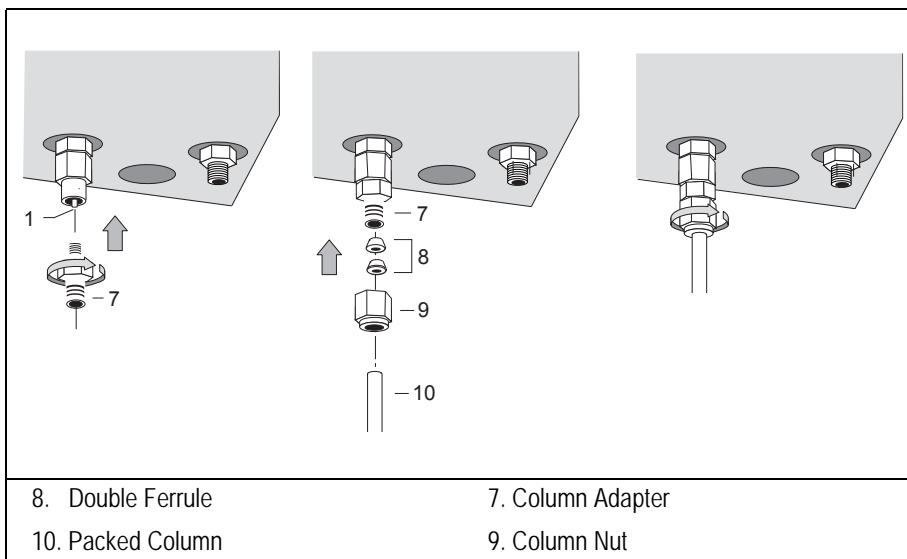

Figure 14-15. Connection to the PDD Detector (2)
7. Insert the column adapter into the base of the adapter for detector as shown in Figure 14-15.